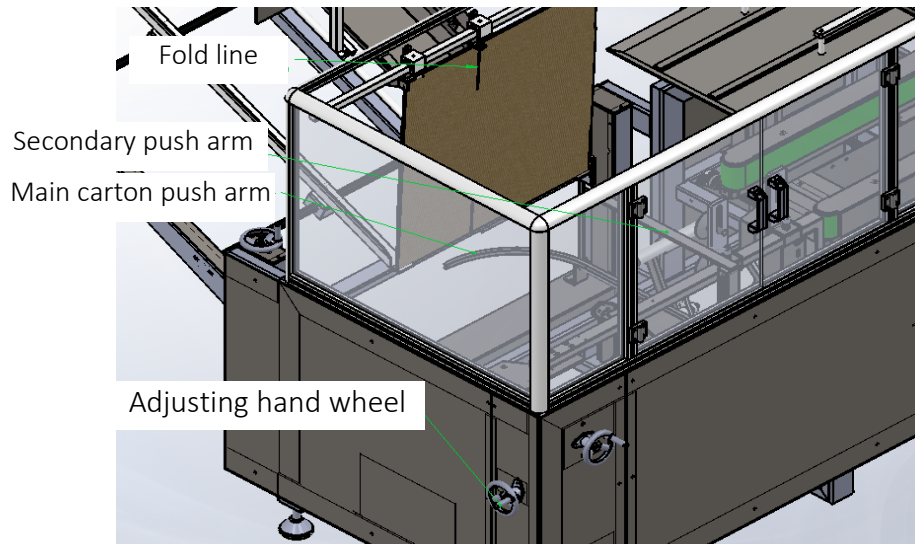

Figure 7
- 1) With the loaded cartons in place Use the hand wheel in figure 7 and set the push arms in line with the cartons folding line or crease.